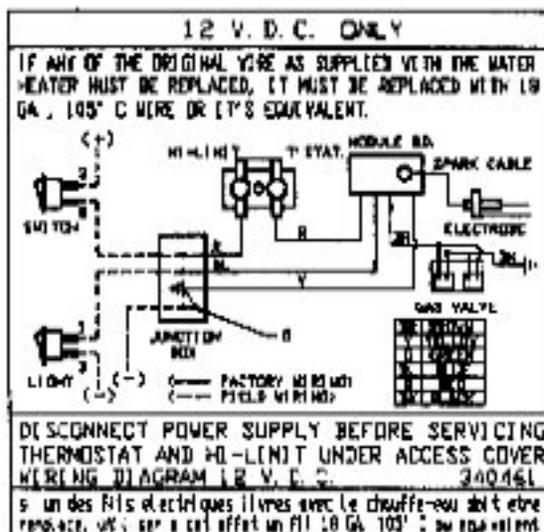

Figure 7
E. Make the 12 Volt D.C. electrical connections following the wiring diagram illustrated in Figure 7.